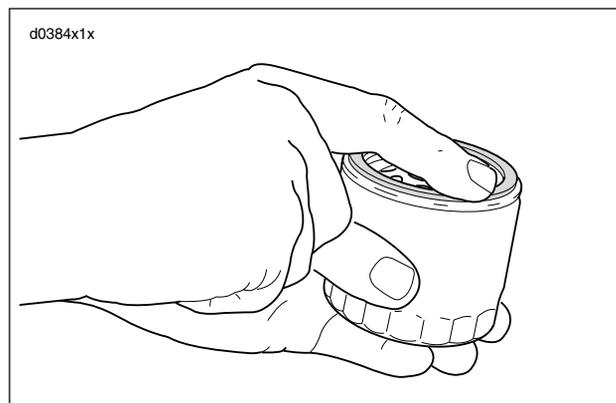

Figure 1-7. Lubricating New Oil Filter Gasket
3. See Figure 1-7. Coat oil filter gasket with clean Harley-Davidson 20W-50 engine oil.